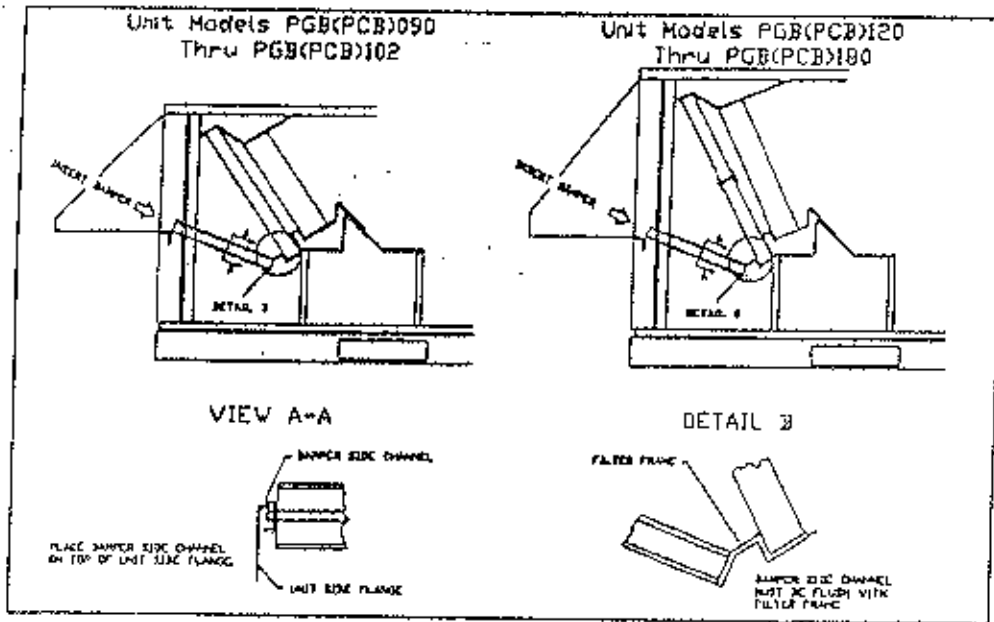

Figure 1
- a. Ensure damper side angle assembly slides in on top of unit side flanges. (See Figure 1).